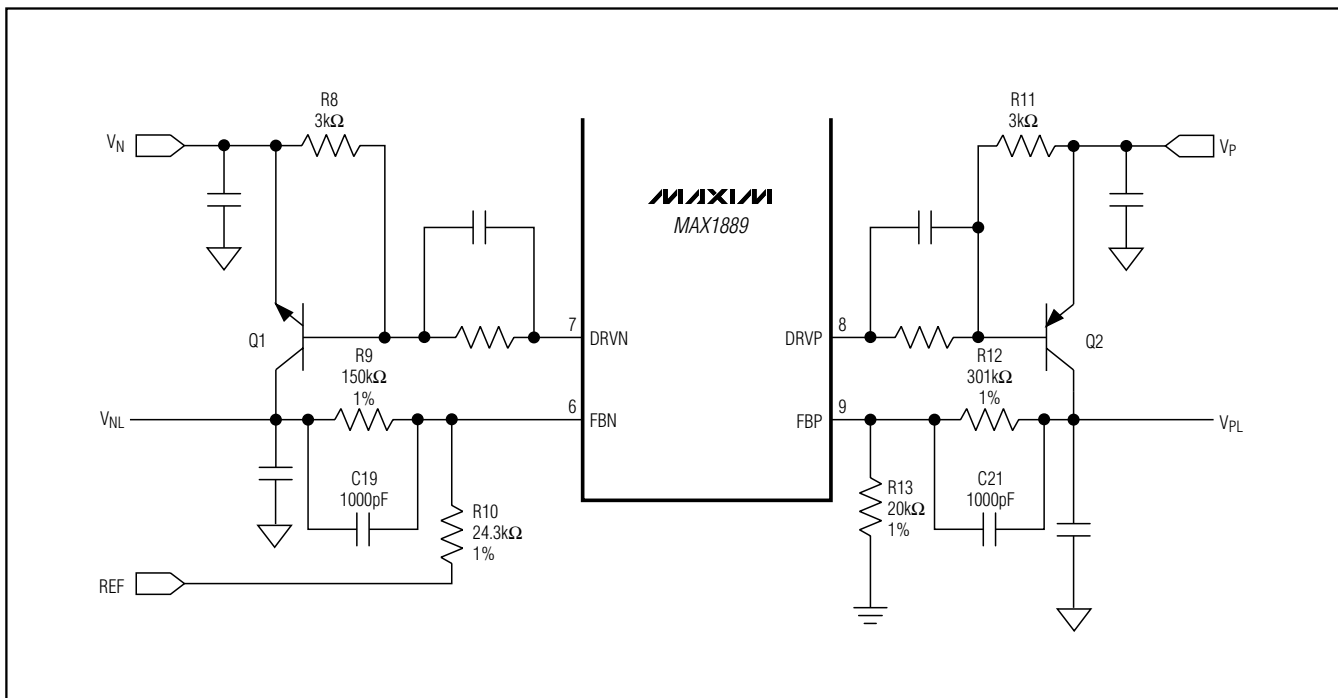

Figure 8. LDO Compensation
- 3) A third pole is set by the linear regulator's feedback resistance and the capacitance (including stray capacitance) between FB_ and GND (for the positive LDO) and FBN and GND (for the negative LDO) (Figure 8):
A capacitor connected between the output and the feedback node improves the transient response, reduces the noise coupled into the feedback loop, and maintains the correct regulation point (Figure 8).